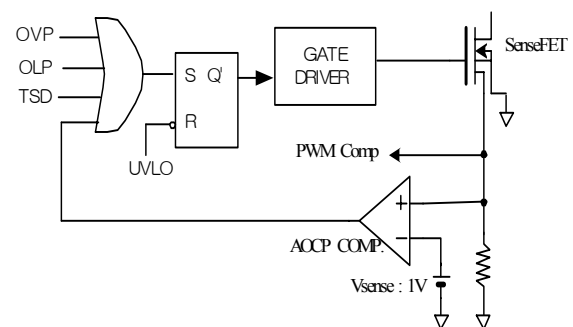

Figure 4. AOCP block
3.1 Abnormal Over Current Protection (AOCP) : When the secondary rectifying diodes or the transformer pins are shorted, a steep current with extremely high di/dt can flow during the LEB time. Therefore, the abnormal over current protection (AOCP) block is added to ensure the reliability as shown in figure 4. It turns off the SenseFET within 300ns after the abnormal over current condition is sensed.